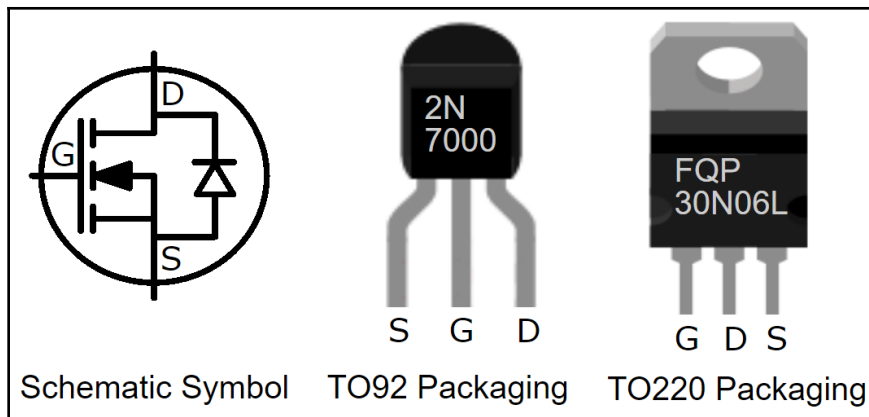

Figure 7.8 – N-Channel Enhancement MOSFET symbol and common package styles
The following exercise will be using a 2N7000, an N-Channel Enhancement Mode MOSFET, as illustrated in *Figure 7.8*. The leg names are *Source*, *Gate*, and *Drain*. Two different packaging styles are also illustrated, the TO92 and TO220. Notice that the arrangement of the Source, Gate, and Drain legs on the two styles are different:
1. Place the MOSFET into your breadboard, taking care to orientate the component the correct way around regarding the **Source**, **Gate**, and **Drain** legs. Our example layout assumes a 2N7000 MOSFET. Please see *Figure 7.8* if you need help to identify the legs.
In *Figure 7.8*, we also have an illustration of an FQP30N06L. This is a Power N-Channel Enhancement Mode MOSFET capable of driving high amperage loads. It has the following specifications in its datasheet: